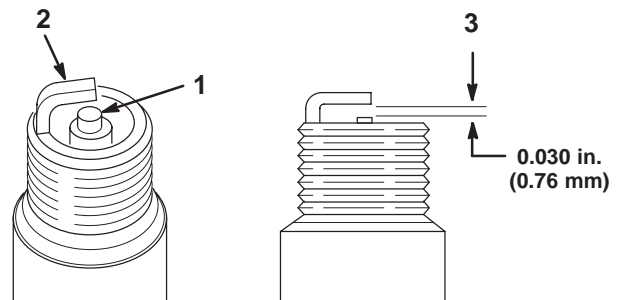

Figure 33
1. Look at the center of the spark plug(s) (Fig. 33). If you see light brown or gray on the insulator, the engine is operating properly. A black coating on the insulator usually means the air cleaner is dirty.
2. Check the gap between the center and side electrodes (Fig. 33). Bend the side electrode (Fig. 33) if the gap is not correct.